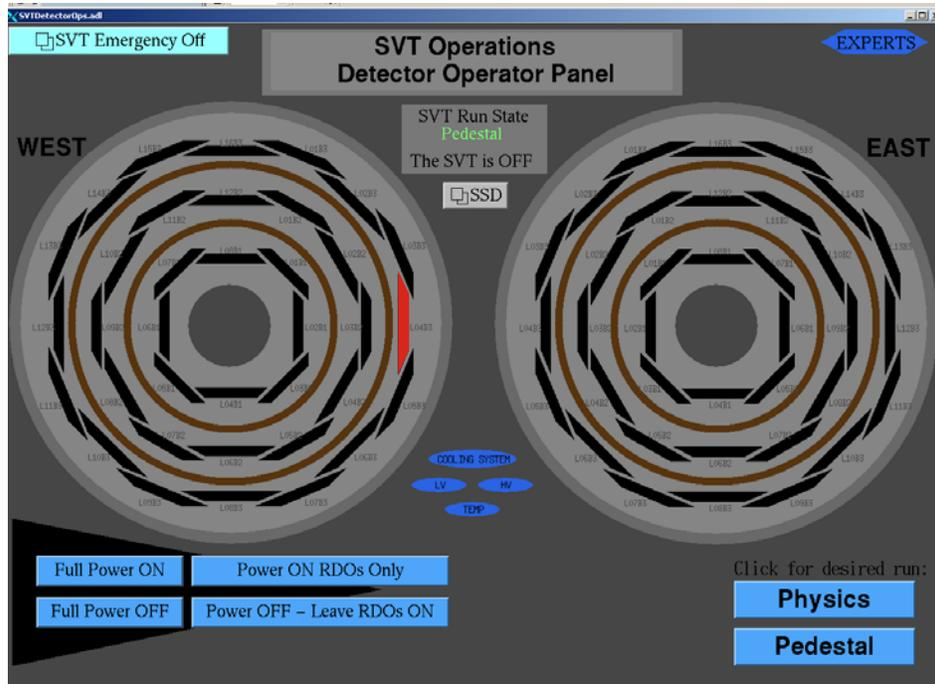

Figure 1. Detector Operator’s Panel showing an alarm on ladder L04B3 West.
Typically for alarms on items 4-9 the slow controls Detector Operator’s panel or Expert’s panel will show a ladder in red as in Figure 1. This indicates that one or more monitored variables associated with this ladder has a problem. It is simplest to shut this ladder off and notify an SVT expert.